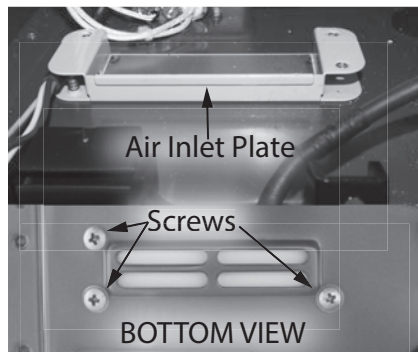

Figure 30 - Air inlet plate
- 6 Locate the air inlet plate as shown in Figure 30. The air inlet plate can be removed to allow easy access to heater block inside hot outlet connection.